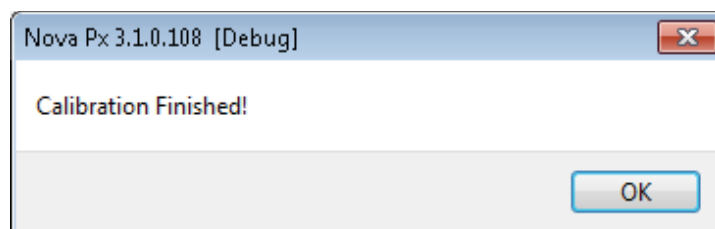

Fig. 6-3. Message box
4. When the calibration completes, a Message box will appear to inform on that (Fig. 6-3). Click the button **OK**.